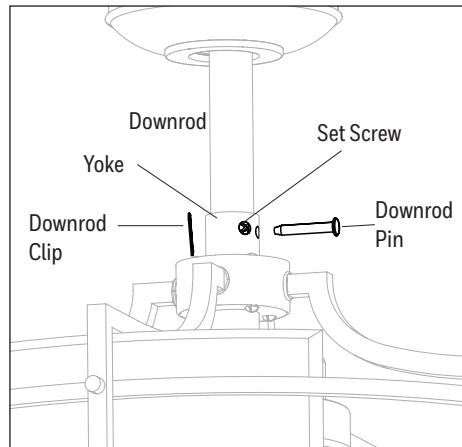

Figure 3.2
2. Slide the downrod into the yoke of the motor assembly, align the holes, then re-install the downrod pin and downrod clip. Then retighten the two set screws (Figure 3.2).